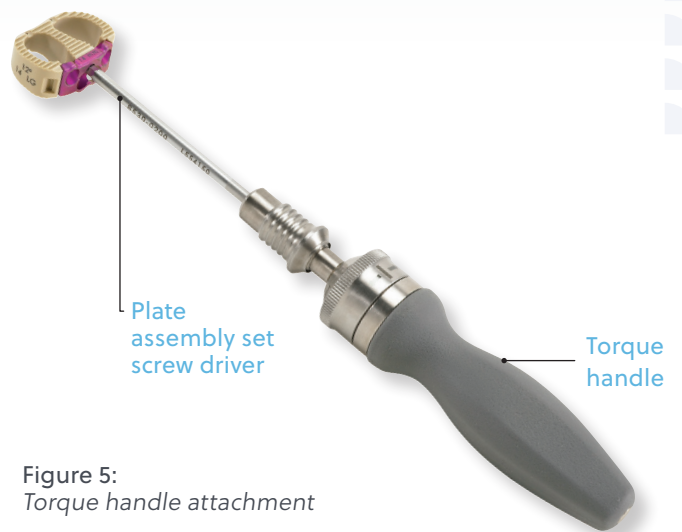

Figure 5:
- Attach the ratcheting torque handle to the plate assembly driver and tighten to the limit of the torque handle (12 in-lb [1.355 Nm]). (**Figure 5**)